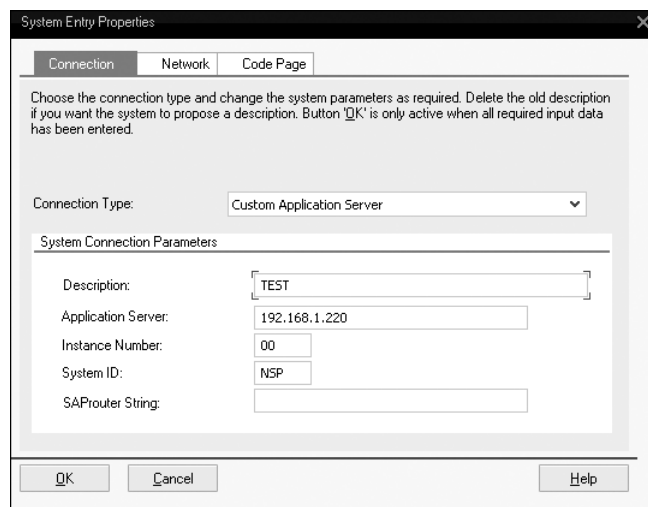

Figure 5.4 System Connection Parameters
- 2 Various parameters for the system connection are available. The following fields are mandatory (Figure 5.4):